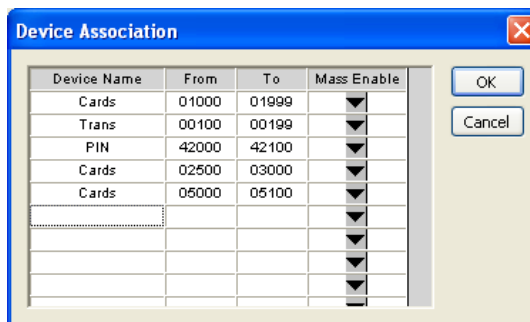
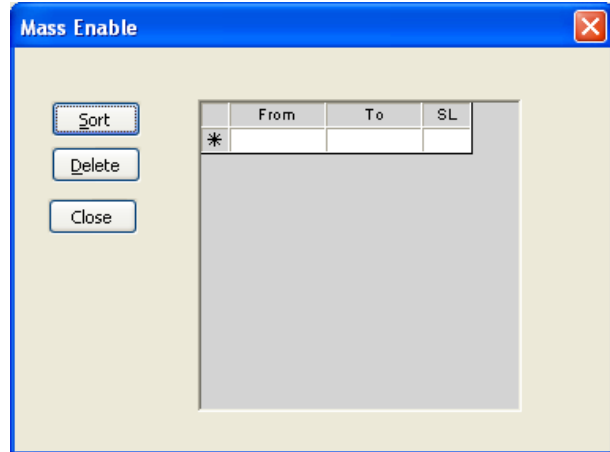

Figure 35
Figure 36
4. Repeat steps 2 and 3 to enter additional device names and ranges (Fig 35).
2. Enter the range of codes that you want to mass enable and enter a Security Level for this range if desired (fig. 36). *NOTE: Entering the security level is optional. If the security level is left blank, the software will automatically assign security level 01 to the device codes. Keep in mind that when you assign (see 4.2) a device code to a user in the database, the security level will automatically change to that of the security level assigned to the user.*
In the example in figure 36, device codes 01000 through 01999 have all been "Mass Enabled" and placed in security level 2 (SL02). From the device association window (fig. 35) we know that these device codes represent access cards.